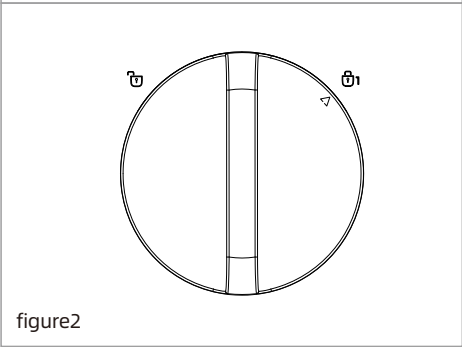

figure2
- d. Remove the packaging of the new filter and insert the cartridge in the system. Turn it clockwise to align the triangle icon on the filter cartridge with the lock icon on the system (figure2).